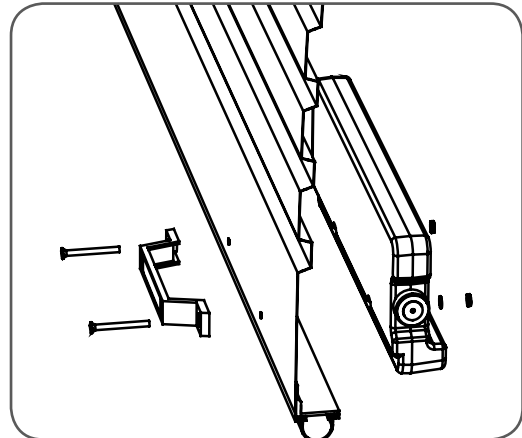

Fig.04
- b. Fit the weight bar and refit the handle using the new fasteners provided (Fig.04).